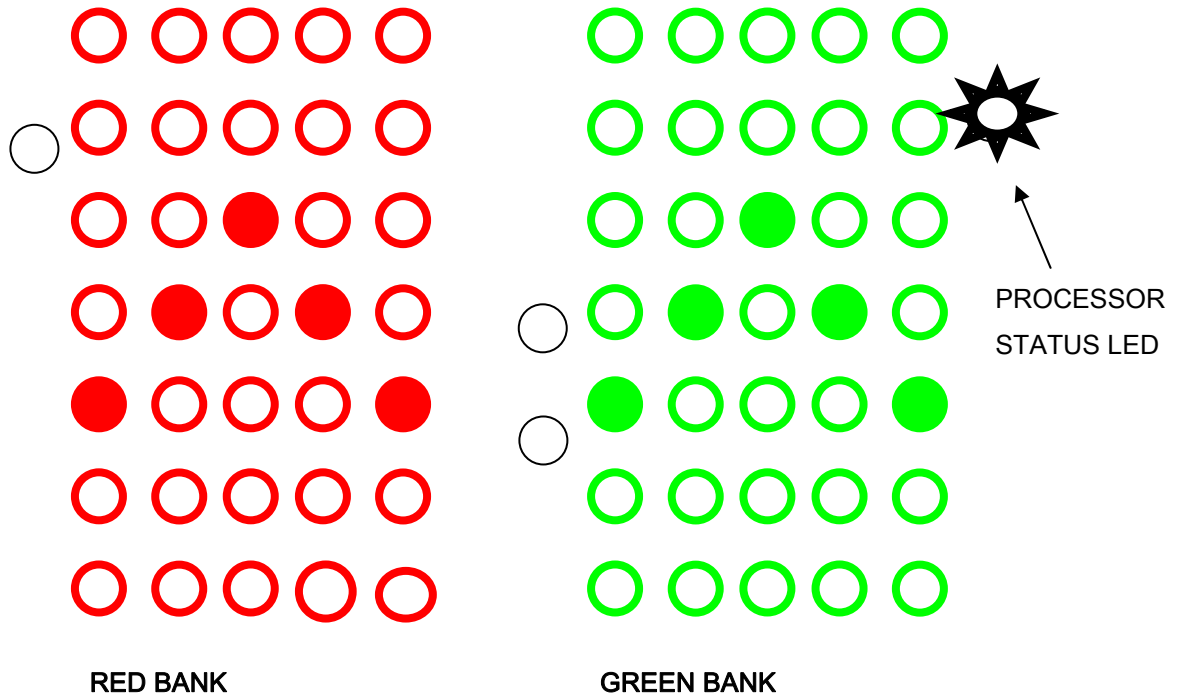

FIGURE 6 - SYSTEM INITIALIZING
- 2 - Apply the proper AC line power to the 85XX Series Rack Monitor. Ensure the rack monitor plug(s) is not connected to anything. **Figure 6**, "System Initializing" followed by Software Version Number. Example: Green LED showing "1" followed by "." followed by "2", stands for Software Version **1.2**